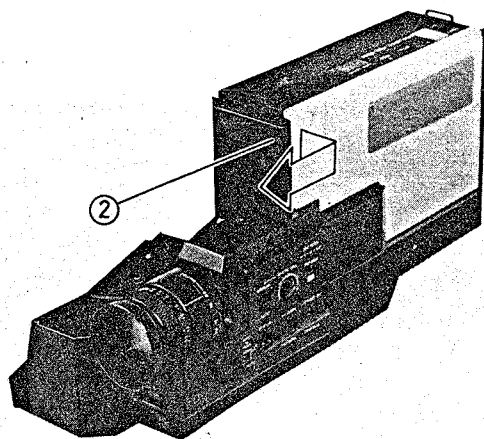

Fig. 2-2 Electronic Viewfinder (EVF) Shoe Removal
Electronic Viewfinder (EVF) Shoe Removal (Fig. 2-2)
2. Remove the EVF shoe. (See Fig. 2-2)